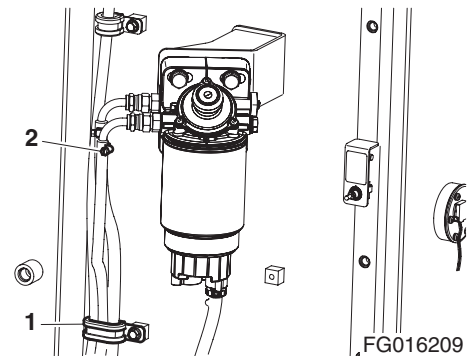

Figure 12
16. Remove fuel hose clamp (1, Figure 12).
17. Remove clamp connecting fuel hose and fuel prefilter (2, Figure 12).